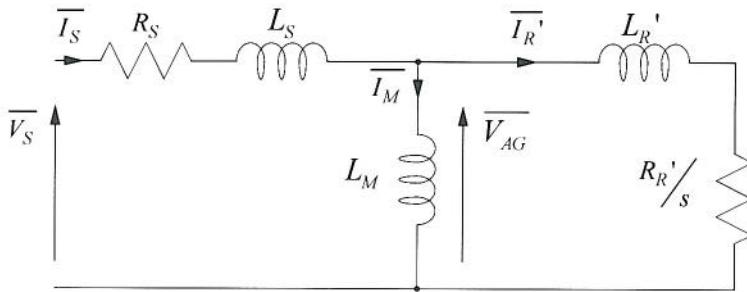

Figure Q6.2 Equivalent circuit of an induction machine.
- (b) A 3-phase induction machine with the equivalent circuit shown in Figure Q6.2 is to be operated from a 3-phase inverter with a DC-link voltage of 650 V.